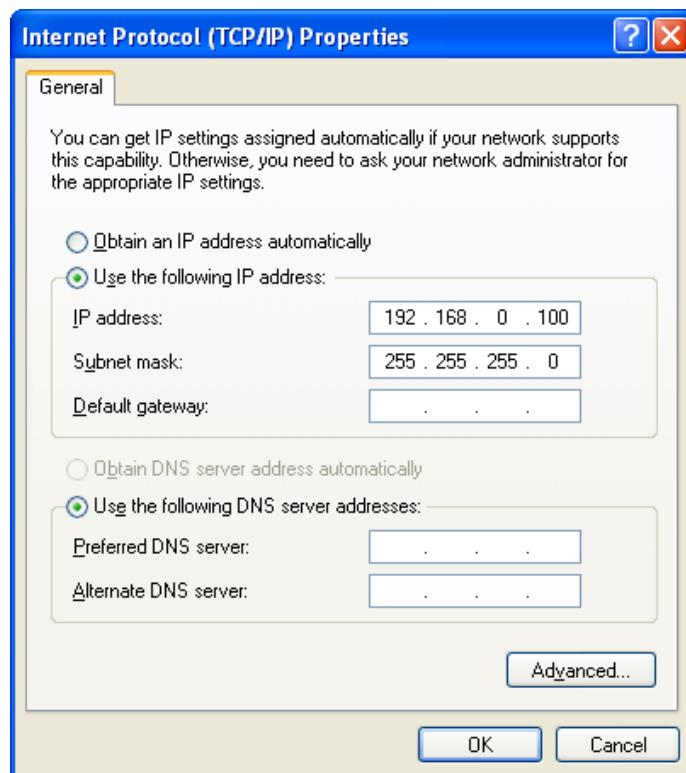

Figure A-2: Select Network Protocol Dialog
6. Click the “Use the following IP address” radio button (Figure A-2). The IP address, Subnet Mask, Default Gateway, Preferred DNS server and Alternate DNS server fields, which are grayed-out, become active.